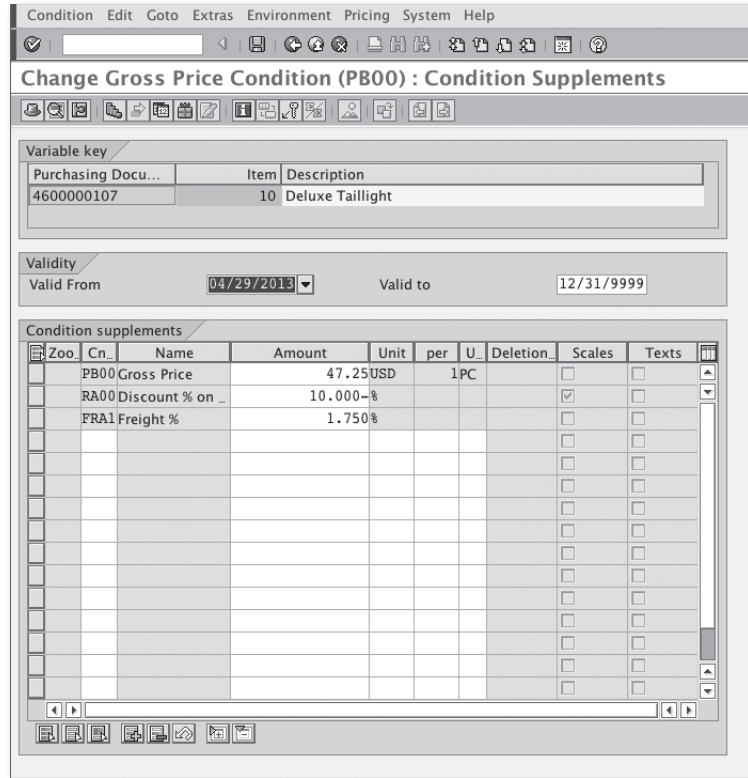

Figure 4.10 Item Conditions Copied from a Reference Document or Entered Manually
4. By selecting the menu entry **ITEM • CONDITIONS**, you can enter all of the conditions you've negotiated with the vendor, including all of the discounts and all of the surcharges (see Figure 4.10).